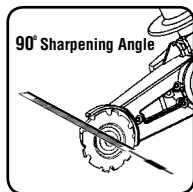

Fig.15
2. Use a (5/32") or 4 mm round metal file (MIN. FG.002). When sharpening hold the file at 90° to the blade, keeping the file level. (as shown in fig.15)